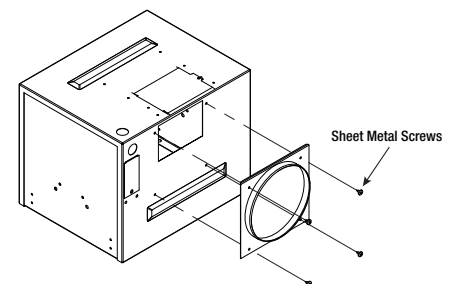

Figure 7 — Secure 8" Round Duct Connector
1. Secure duct adaptor to housing using holes and (4) original sheet metal screws, shown in Figure 7.